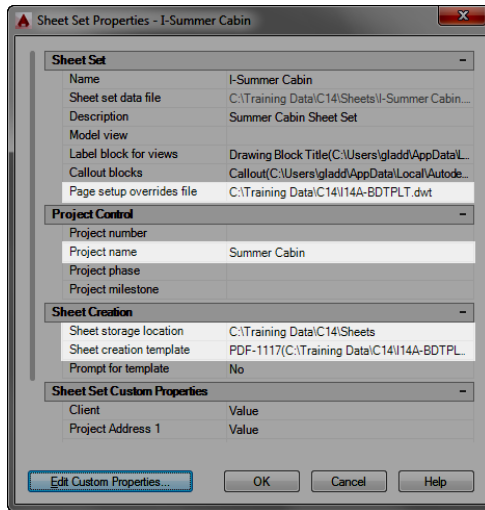

FIGURE 14.34: The Sheet Set Properties dialog box configured for the Summer Cabin project
14. Click the Project Name property to make it active, and enter **Summer Cabin** as the project name, as shown in Figure 14.34.
15. Verify that the Sheet Set Properties - Summer Cabin dialog box looks like Figure 14.34, and then click OK to save the settings and exit the dialog box.